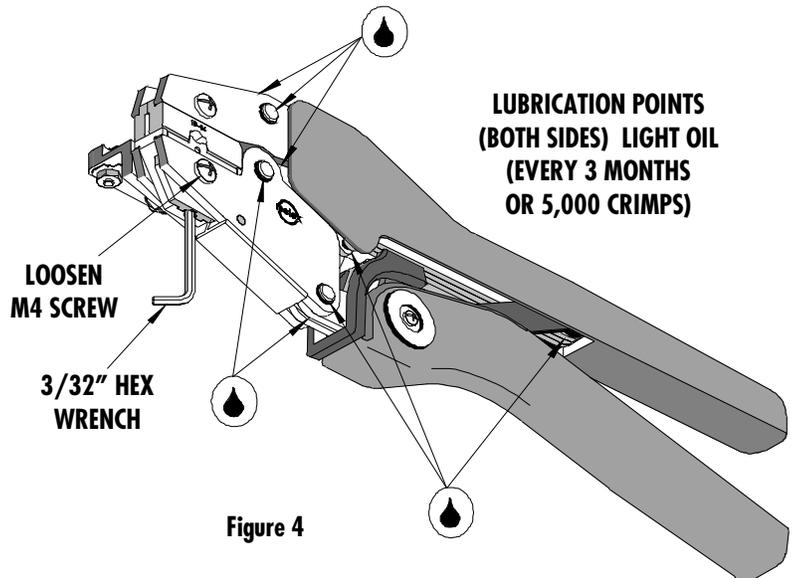

Figure 4
6. If the insulation part of the crimp needs to be adjusted, first loosen the M4 screw on the bottom tool jaw, then insert a 3/32 hex wrench (supplied) into the bottom of the lower die (See Figure 4). A clockwise (CW) rotation decreases insulation crimp while a counter-clockwise (CCW) rotation increases insulation crimp. After adjusting retighten the M4 screw.
3. Make certain all pins; pivot points and bearing surfaces are protected with a thin coat of high quality machine oil. Do not oil excessively. The 64001-0800 (RHT-5760) was engineered for durability, but like any fine piece of equipment it needs cleaning and lubrication for a maximum service life of trouble-free crimping. A light oil, such as 30 weight automotive oil used at the oil points shown in Figure 4, every 5,000 crimps or 3 months will significantly enhance the tool life and ensure a stable calibration.